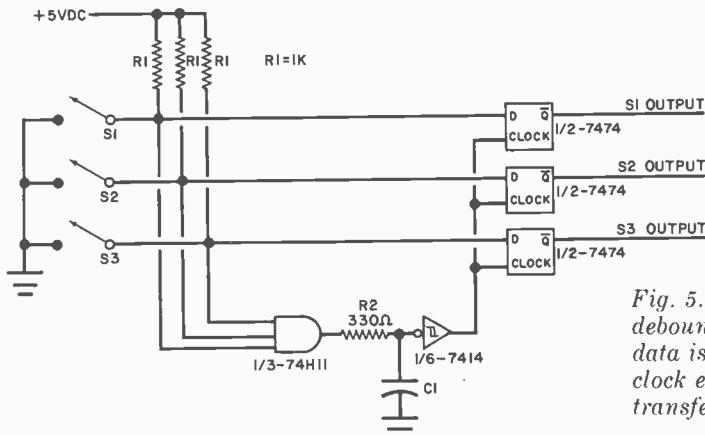

Fig. 5. In keyboard debouncing, switch data is stored until clock enable transfers the data.
**Keyboard Debouncing.** Keyboards, having many switches, pose a special problem when debouncing is considered. Building a debounce circuit for each switch is impractical. Many keyboards include a strobe, or gating, contact which is activated whenever any key is operated. In such keyboards, this common switch should be debounced and its output used to test the state of the remaining switches. Where a common switch is not available, the individual switches can be logically "OR'ed" and the resultant output used as input to the debounce circuit. A typical circuit is shown in Fig. 5. Note that this is an application of the circuit of Fig. 4. Each time a switch is operated, the output of the debounce circuit clocks a flip-flop register which stores the switch information until another switch is operated.
Note that only Schmitt trigger gates should be used with RC networks as shown, since such networks on the input of an ordinary gate can cause oscillation at the gate's output. Series resistance such as  $R_2$  in Fig. 5 should not exceed 330 ohms.